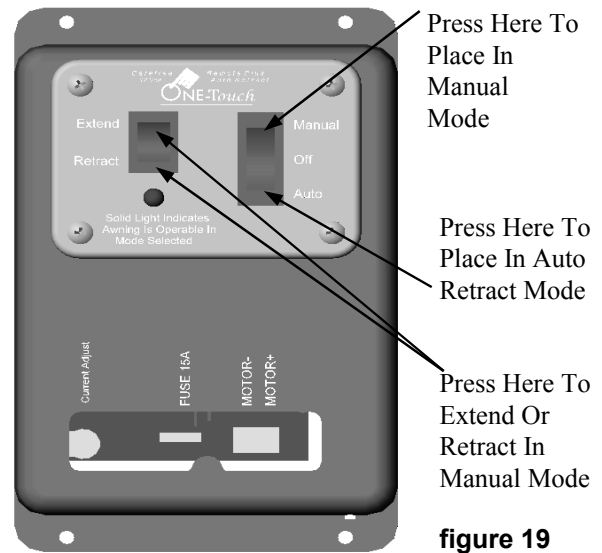

figure 19
A. TO EXTEND: Place the awning in the Manual Mode by depressing the 3 position rocker switch on the Power Control Switch Panel that is marked "Manual". (figure 19) Operate the power switch in the "EXTEND" mode. Extend the awning until the roller assembly stops turning. At this point the fabric will be slightly slack. Jog the "RETRACT" switch slightly to tighten canopy.
A. TO EXTEND: Place the awning in the Manual Mode by depressing the 3 position rocker switch on the Power Control Switch Panel that is marked "Manual". (figure 19)